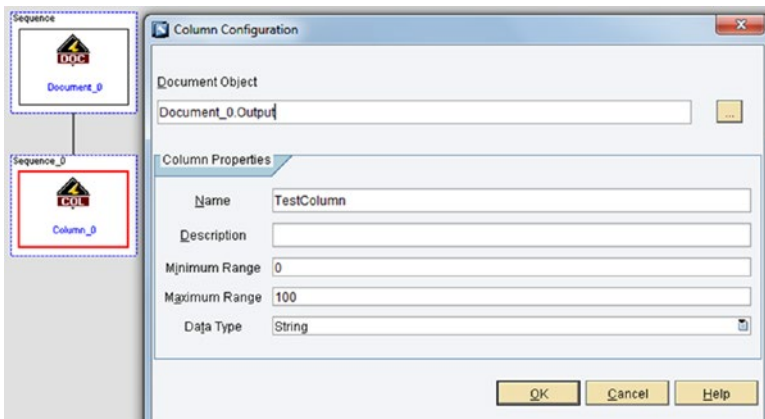

Figure 6-57. Column action block
- *Column action block*: Adds a new column definition under the rowset in a XML document defined by the Document action block. See Figure 6-57.